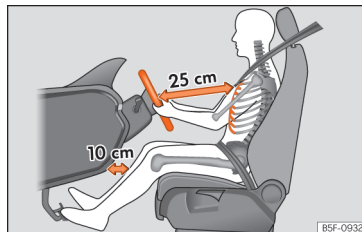

Fig. 17 The correct distance between the driver and the steering wheel must be at least 25 cm [10 inches].
- Adjust the steering wheel so that it is at a distance of at least 25 cm (10 inches) from the sternum >>> **Fig. 17** and can hold it with both hands on the sides, on the outside, with the arms slightly flexed.